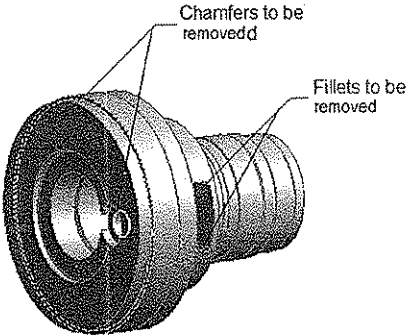

Figure 7-81 Fillets and chamfers to be removed
Next, you have to delete small fillets and chamfers to make the model simpler, as shown in Figure 7-81.
- 49. Use the **Delete Faces** tool from the **Create** menu to delete small fillets and chamfers in the model, refer to Figure 7-81.